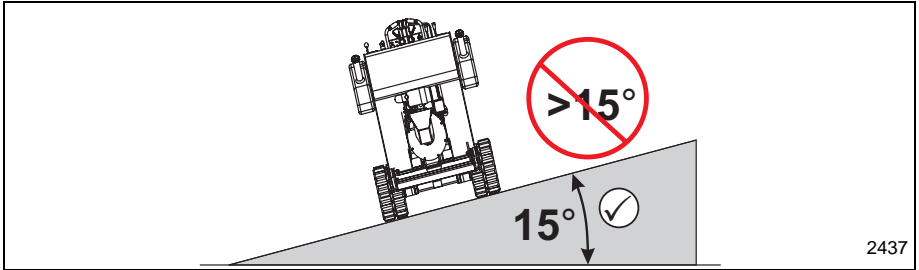

Figure 3-15 Slide Slope Travel
- Do not travel up or across a slope steeper than 15°. See **Figure 3-15**.